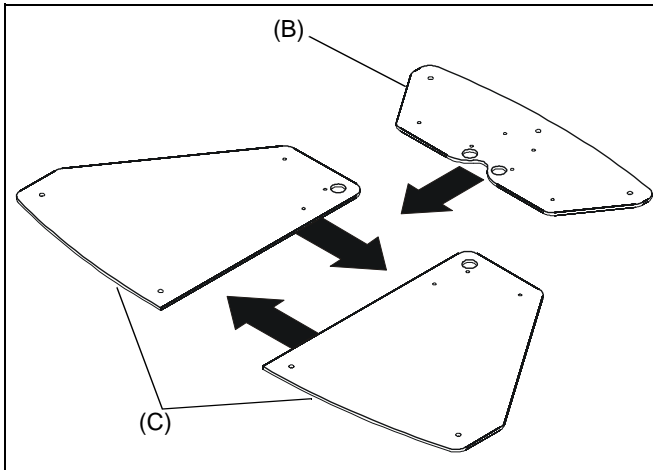

Figure 4
- Gather stand base pieces B and C (2) as shown in Figure 4 and push them together until the edges meet.